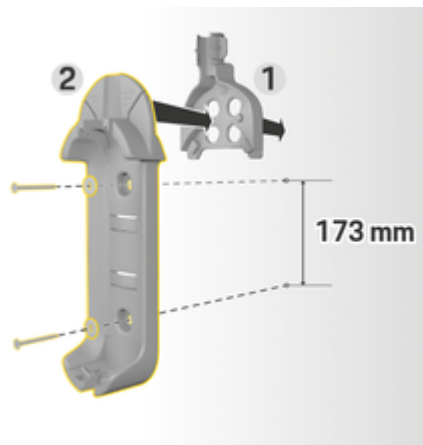

Fig. 8 Drilling dimensions
3. Press the basic wall mount 2 (Fig. 8) into the cable guide 1 (Fig. 8) from the front.